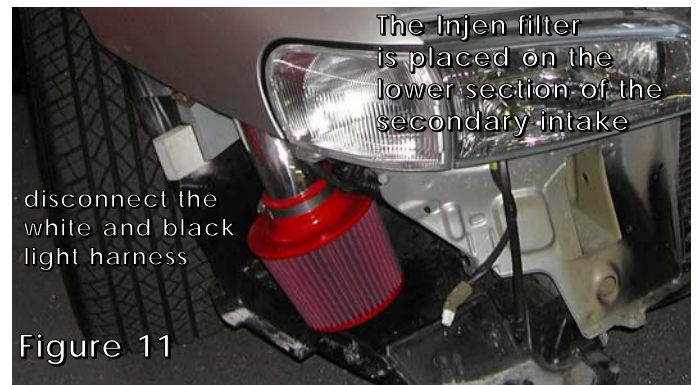

Figure 11
6. Take the secondary intake and insert the straight end into the oval opening as seen in figure 4. Start at the bumper as seen in figure 11 and join it up to the 2 3/4" hose on the primary intake. See figs. 1, 8 and 10